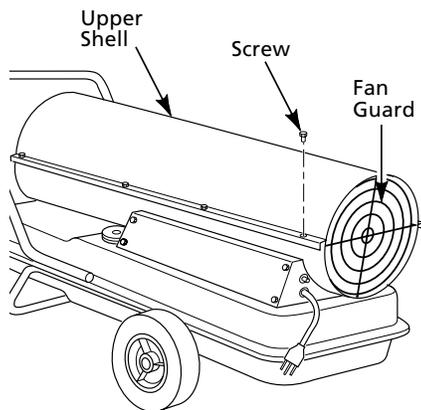
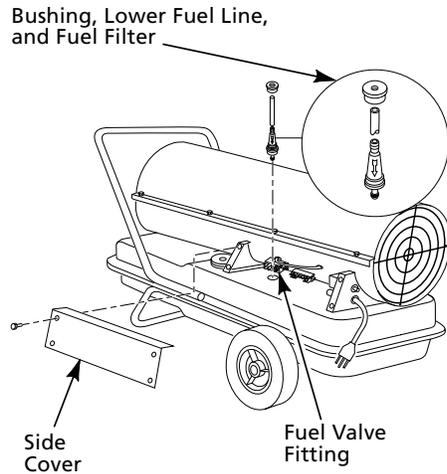

Figure 6 - Upper Shell Removal
Figure 11 - Fuel Filter Removal
1. Remove screws along each side and top of heater using 5/16" nut-driver. These screws attach upper and lower shells together (See Figure 6).
1. Remove upper shell ( See Figure 6).
2. Remove side cover (See Figure 11).
1. Remove side cover (See Figure 11), fan guard, and upper shell (See Figure 6, page 6) screws using 5/16" nut-driver.
1. Remove upper shell (See Figure 6, page 6).